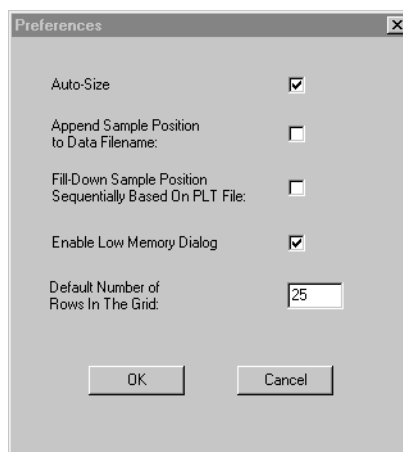

Figure 7-12 Preferences Dialog Box
1. Select **Preferences** from the File menu to display the Preferences dialog box (Figure 7-12).